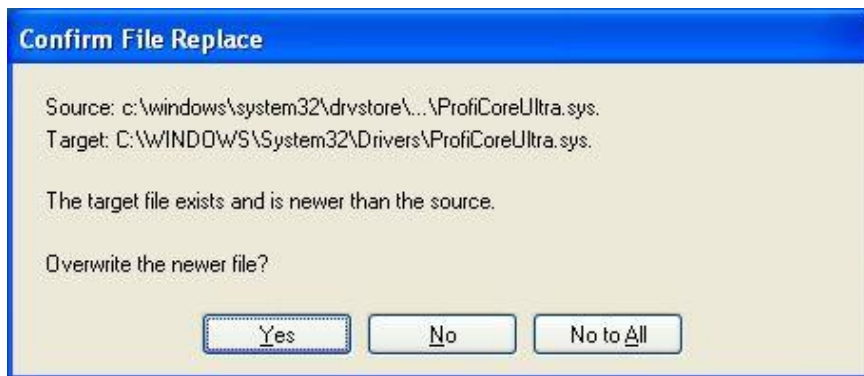

Fig. 4 - Warning prior to replacing drivers (confirm with Yes)
- Install the new version on-top of the directory from the previous version. If you are confronted with a warning about existing drivers which seems to be newer (see **Fig. 4**), just click 'Yes' and overwrite them.